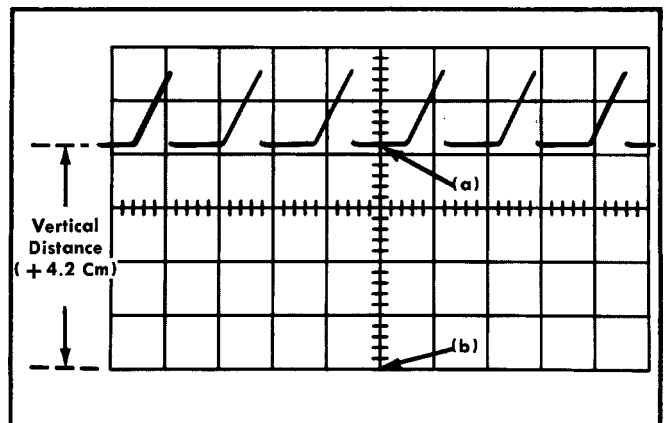

Fig. 3-2. Measuring instantaneous voltage with respect to some reference.
3. Set the Channel 1 INPUT SELECTOR switch to GND and position the trace (with the Channel 1 POSITION control) along one of the horizontal graticule lines such as point (B) in Fig. 3-2. This line will be used as a ground (or zero) reference line. In any case, the reference line chosen will depend upon the polarity and DC level of the signal to be measured. Do not move the Channel 1 POSITION control after the reference line has been established.
7. Measure the vertical distance in cm from the ground (zero) reference line established in step 3 to the point on the waveform that you wish to measure, such as between (A) and (B) in Fig. 3-2. If the PULL FOR INVERT switch is set to normal and the point on the waveform is above the reference line, the polarity is indicated to be positive (+). If the point is below the line, the polarity is negative (—). If the PULL FOR INVERT switch is set to inverted, the indicated polarities will be reversed.
8. Multiply the measured distance by the setting of the VOLTS/CM switch and the attenuation factor, if any, of the probe. This is the instantaneous DC level of the point measured. For example, assume the vertical deflection is 4.2 cm above the reference line (see Fig. 3-2) using a 10× attenuator probe with the PULL FOR INVERT switch set to normal and the VOLTS/CM switch set to 2. Substitute these values in the following formula: